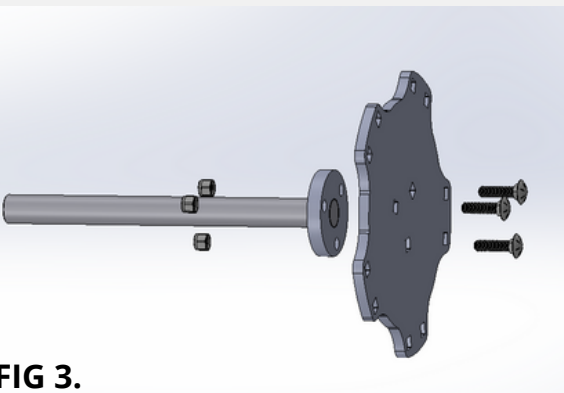

FIG 3.
6. Install Bearing Shaft to Center Paddle Plate using the 3/8"x 1-1/4" Carriage Bolts and 3/8" Nylon Nuts (3pcs), as shown in Fig. 3